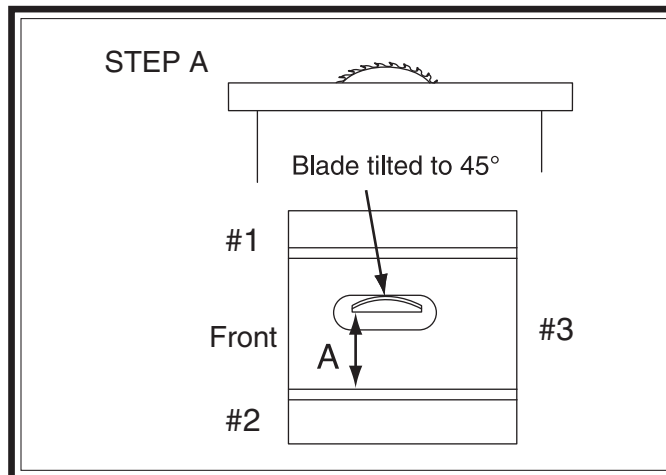

Figure 126. Shim procedure diagram A.
10. Refer to **Figures 126–127** for shim placement. If distance A is shorter than B, shim(s) will need to be placed under corners #1 and #2. If distance of B is shorter than A, shim(s) will need to be placed under corners #3 and #4. Very thin shim stock works well.